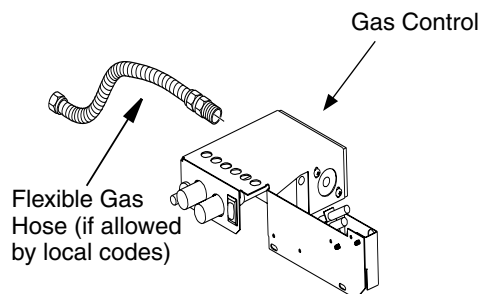

Figure 11 - Attaching Flexible Gas Hose to Heater Gas Regulator
1. Apply pipe joint sealant lightly to male threads of gas fitting (not provided). Connect approved flexible gas hose to inlet side of gas control (see Figure 11).